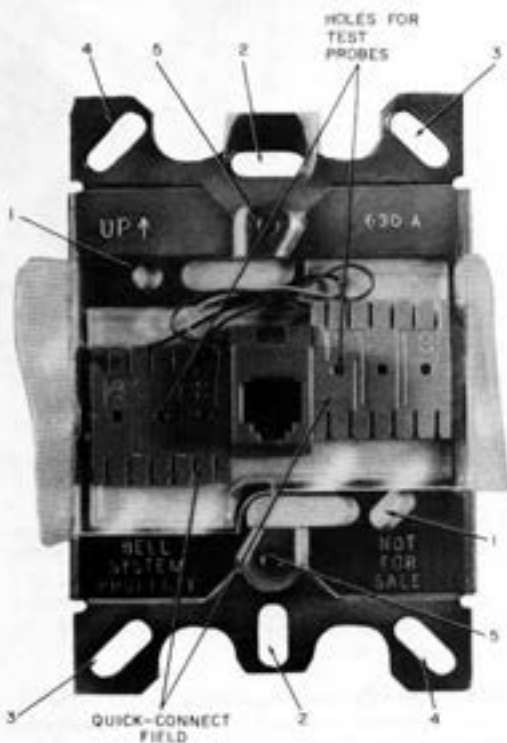

Fig. 11—630A4 Connecting Block (Current Model Without Mounting Plate)
(a) A fastener package is provided with the 630A4 connecting block consisting of two 3/16-inch 800413577 cover mounting screws, two 5/16-inch 840705008, and two 1-1/8 inch 841065529 flathead machine screws. Depending on mounting arrangement, select proper fasteners from Table B and mount connecting block using holes designated in Fig. 11. The connecting block should be straight before tightening screws.
4.01 The 630A4 connecting block may be used with exposed or concealed station wire. Each quick-connect terminal (total of four) provides three station wire terminations per lead. One termination is required for the jack conductor. An access for a test point is also provided (Fig. 11).